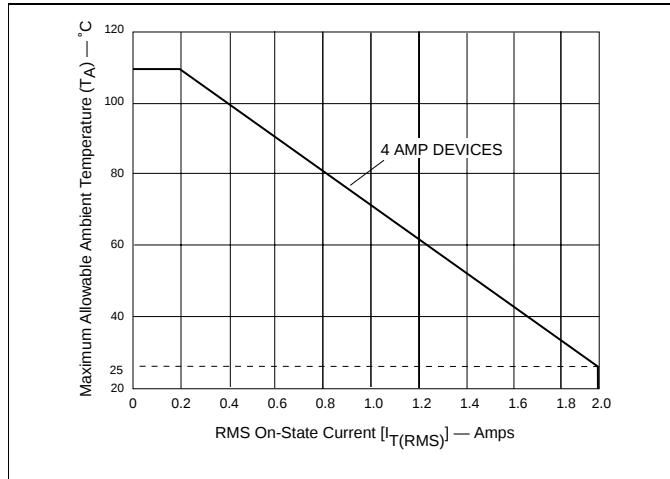

Figure 3.6 Maximum Allowable Ambient Temperature vs On-State Current
- (5) See Figures 3.6, 3.7, and 3.8 for current rating at specific operating temperature.